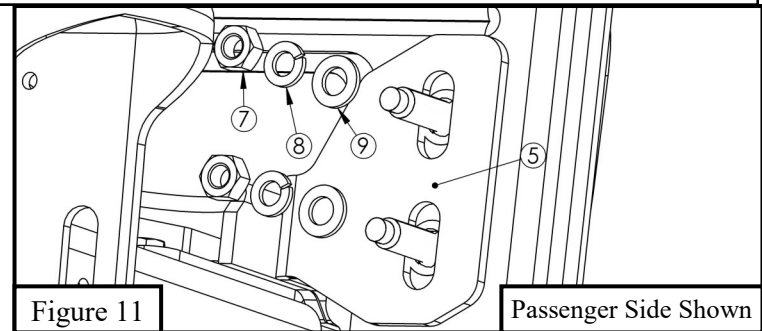

Figure 11
- Starting on either side of the vehicle. Locate (1) Lower Mount Bracket (Item 2/3) and from the front of the vehicle install it where the tow hooks were. Align the bracket with the vehicle frame at the same location that the factory bracket was removed. Loosely install using (4) M12 hex head cap screws, (8) M12 hex nuts, (8) M12 split lock washers and (12) flat washers (Items 6 - 9). See Figures 11 and 12.